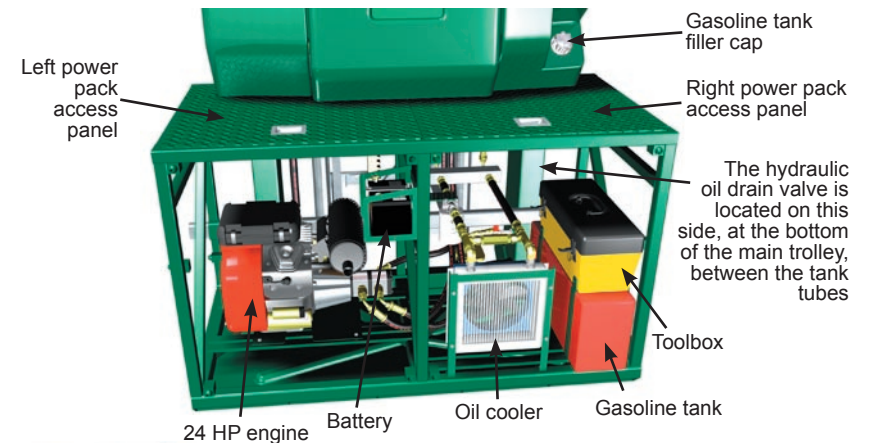
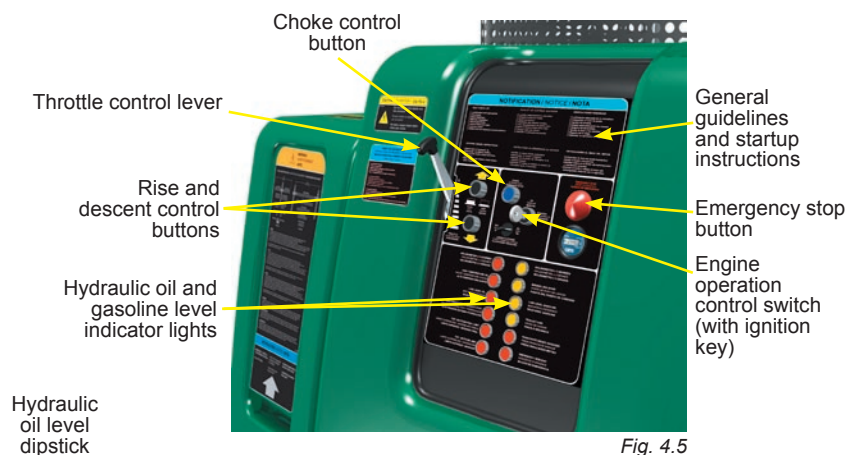

Fig. 4.1
Fig. 4.5
- 2- Lift the right power pack access panel and retrieve the ignition key from the toolbox (fig. 4.1, on p. 27). Insert the ignition key in the engine operation control switch on the control panel (fig. 4.5).
- 5- Lower the throttle control lever (fig. 4.5) at a 1/4 of the way.
- 3- Turn the ignition key **all the way to the left** (OFF position) to shut down the engine. Remove the ignition key from the starter switch and store it in the toolbox for future use (fig. 4.1).